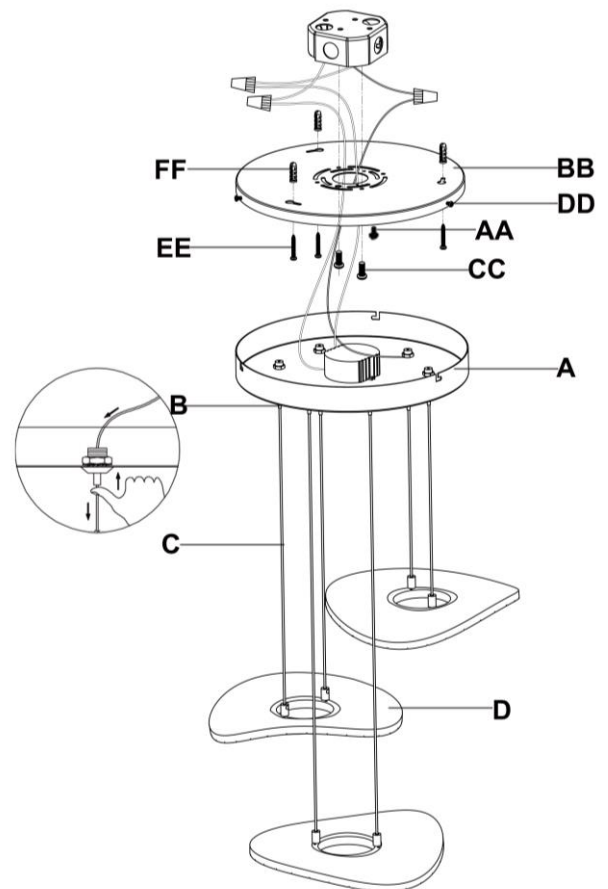

Fig. 2
CONNECTING THE WIRES (Fig. 2)
8. At this point, connect the electrical wires as shown in figure 2, making sure that all wire connectors are secured. If your outlet has a ground wire (green or bare copper), connect the fixture's ground wire to it. Otherwise, connect the fixture's ground wire directly to the circular strap using the green screw provided.